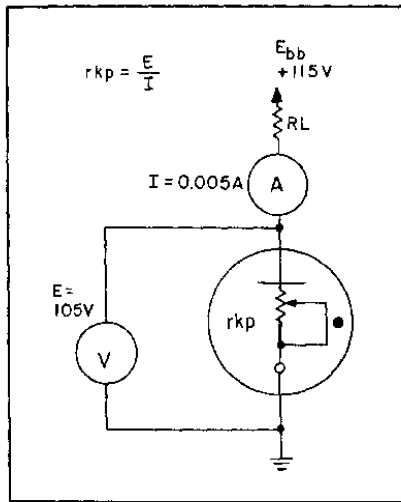

Figure 2A. —Cold-cathode tube operation.
- 2-30. If the source voltage in figure 2A is increased to 150 volts and the ammeter reads 20 milliamperes, what is the resistance (r_{kp}) of the tube?